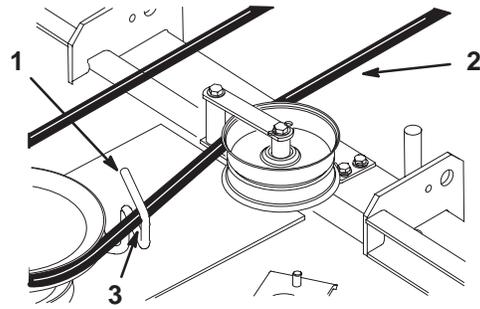

Figure 71
- Rotate the belt guide, on rear of the mower, so it is 1/8-1/4 inch (3-7 mm) away from the vertical side of the PTO belt (Fig. 71).